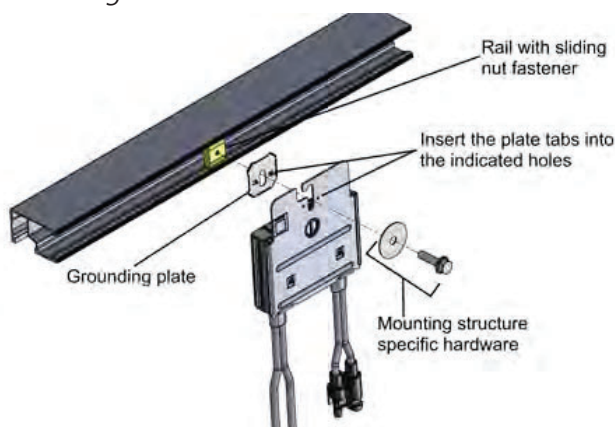

Figure 4: Power optimizer installation and grounding using a grounding plate
- **For mounting on rails with sliding nut fasteners:** If the star washer cannot be used, use the SolarEdge grounding plate (purchased separately) between the railing and the flat side of the mounting bracket. Use mounting specific hardware as needed. Apply torque of 9.5 N*m / 7 lb*ft. See Figure 4.